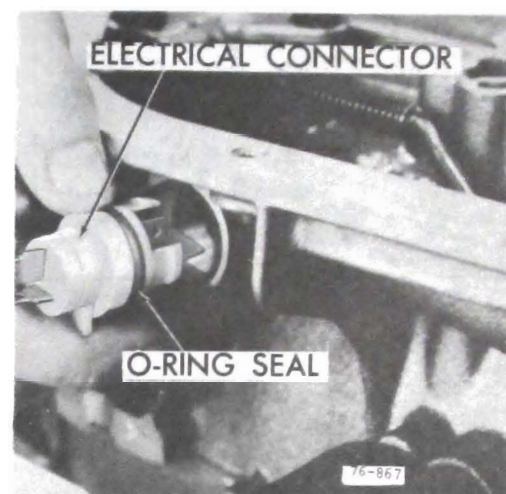

Figure 76-523
5. Compress fingers on case connector sleeve and withdraw. See Figure 76-523.